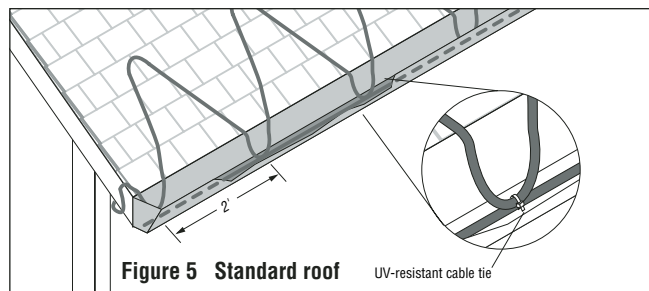

Figure 5 Standard roof
- Loop the heating cable on the overhang area of the roof. This is the part that extends past the building wall. Extend the bottom of each heating cable loop over the roof edge and, using a UV-resistant cable tie, connect the bottom of each loop to the cable running in the gutter to ensure a drainage channel off the roof and into the gutter and downspout. The cable running in the gutter should remain against the bottom of the gutter as shown in Figures 5 and 6.